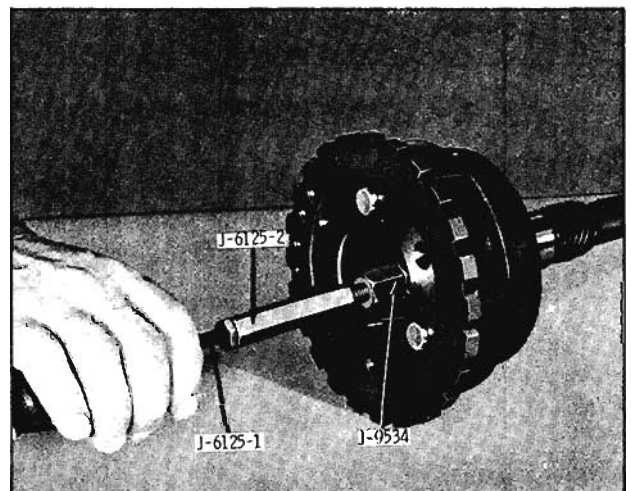

Fig. 6-392 Removing Output Shaft Bushing
- Check output shaft bushing for nicks, severe scoring or wear. If bushing replacement is necessary, continue as follows. Install Bushing Remover J-9534 into bushing. Install Slide Hammer J-2619 into J-9534, using slide hammer, remove bushing from planet carrier. (Fig. 6-392)